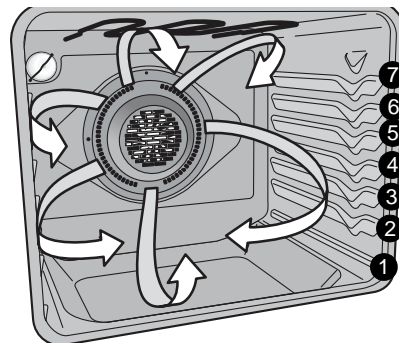
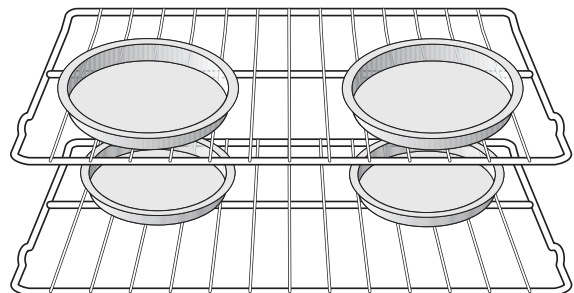

Figure 14: Convection air flow
Figure 15: Pan spacing suggestion
This mode of cooking enables you to obtain the best results when baking with multiple pans and racks. The oven can be programmed for convection baking at any temperature between 170°F to 550°F. The convection function uses a fan to circulate the oven heat uniformly and continuously around the oven (Figure 14). This improved heat distribution allows for fast, even cooking and browning results. It also gives better baking results when using two oven racks at the same time.
- For best results when baking cakes using two oven racks, place racks in positions 3 with offset rack and 5 using flat rack (See Figure 14). When baking using two oven racks, position cookware as shown in Figure 15. Allow at least 2 inches (5 cm) of space between cookware for proper air circulation.